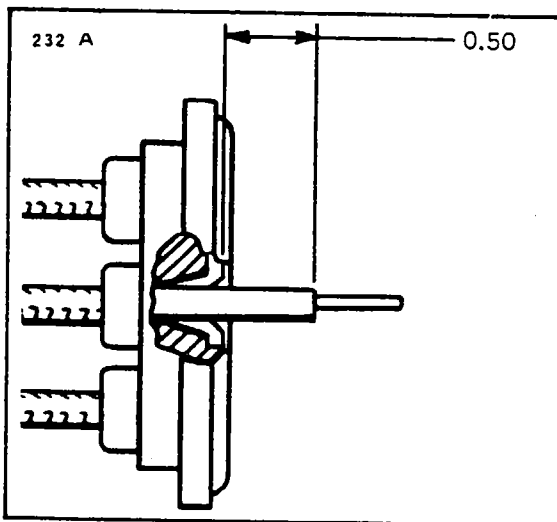

Figure 8-26. Measuring Wire From Top of Ferrule
12. Measure .50 inch from tapered ferrule and strip remaining insulation from wire. (Refer to Figure 8-26.)